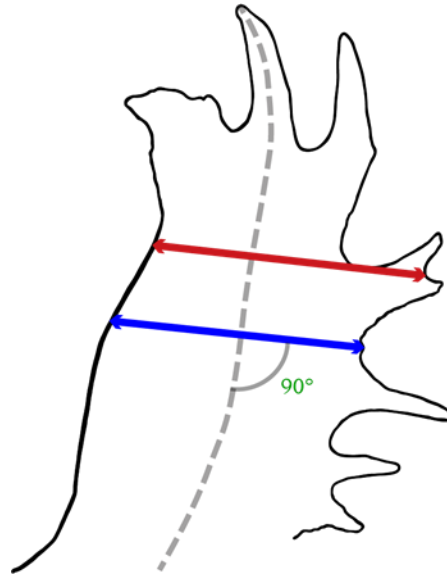

Figure 5
4. Width of Palm. Measure the width of each palm on the outside of the antler at the widest place between two valid tines; the measurement must be taken at a 90-degree angle to the axis of the palm. In this case the greatest score is to be sought, so again several measurements must be taken. Be careful: Do not measure between two tines that have a common base and remember that this measurement must be made between two valid tines, see GDI for what is a valid tine. See red line (wrong) and blue line (correct) in Figure 5.